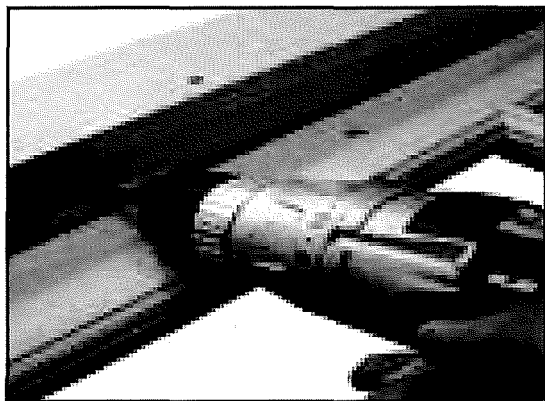

Fig A13
21. Secure the window to the frame using 3x 25mm screws per hinge, (fig. A13 ) again through the predrilled holes in the hinge.